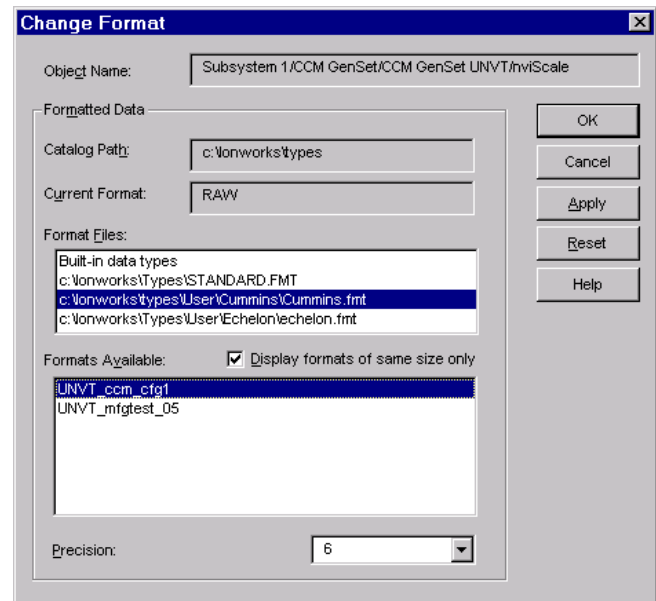

FIGURE G-8. SELECTING THE CUMMINS.FMT FORMAT FILE
- b. Select the Cummins.fmt format file and select the desired format and click the “Apply” button (see Figure G-8).